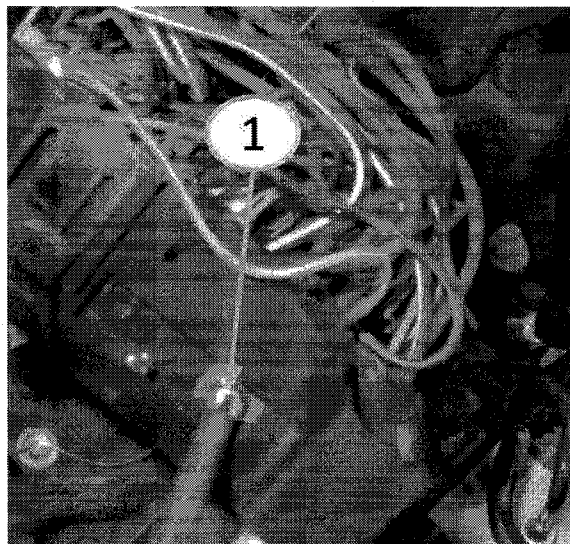

Fig. 8 Tighten Screw For Buss Bar
21. Using the 5m screw provided in the repair kit, attach the wire installed in cavity number 53A with M5 eyelet to the buss nut. Torque the screw to 2.9-3.9 Nm, see (Fig. 8).